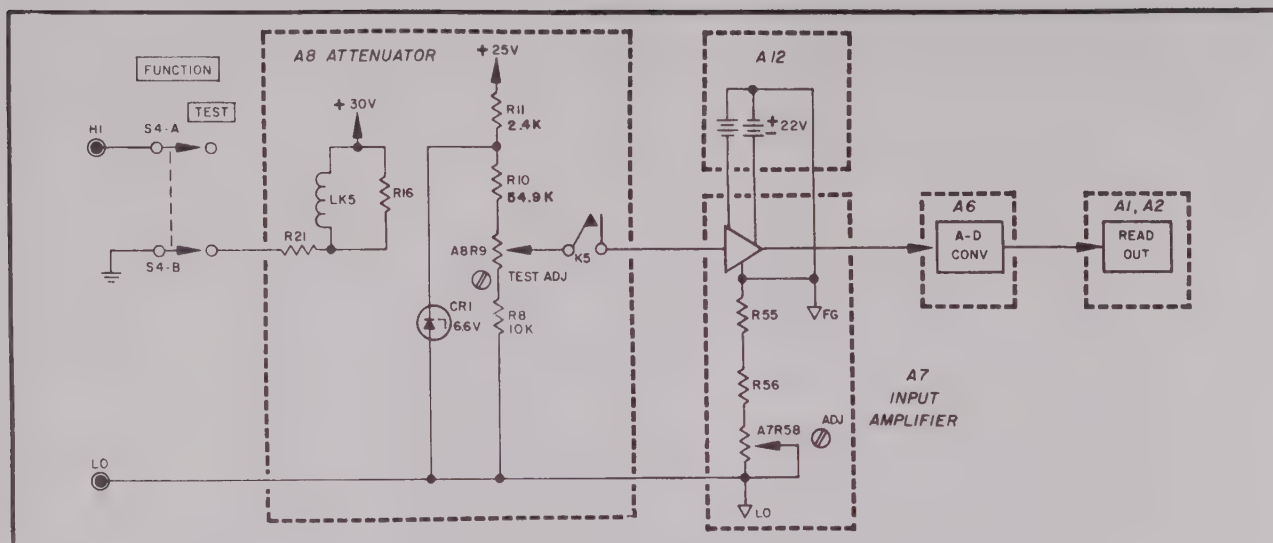

Figure 4-8. Self Check Circuit
4-26. When TEST is selected on the front panel FUNCTION switch, the function logic energizes relay A8K5. With A8K5 closed, a path is provided from the variable voltage tap A8R9, TEST ADJ (see figure 4-8) to the input amplifier A7. A8CR1 gives a stable reference voltage of 6.6 volts. A8R9 is adjusted at the factory for a 1 V input to input amplifier A7. When the instrument is operating properly the resulting readout should be 0.1000 ± 1 digit on the (1) range.